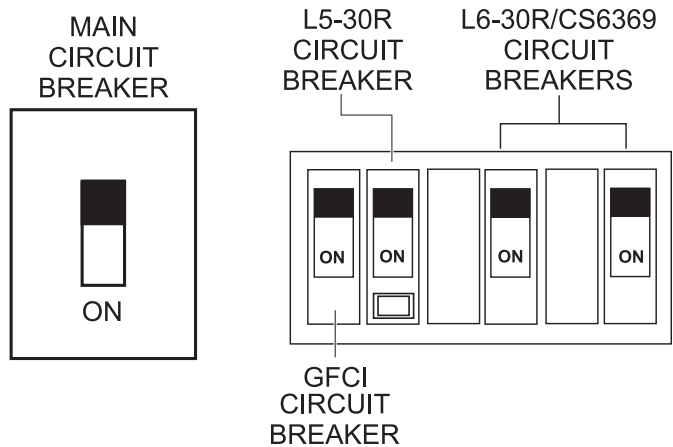

Figure 32. Circuit Breakers (ON)
10. Place **ALL circuit breakers** in the **ON** position (Figure 32).